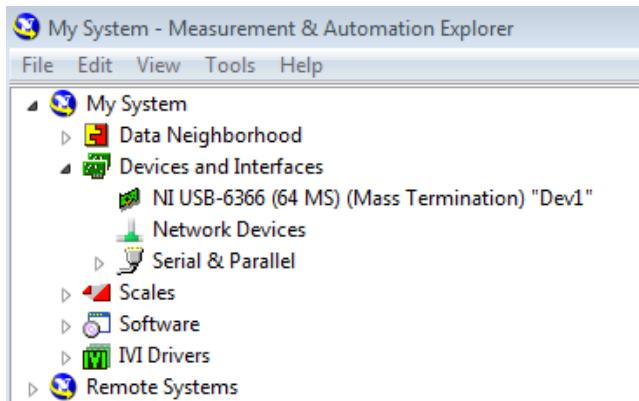

Figure 5: USB-6366 should be visible in NI MAX
- c. Turn on USB-6366, computer should recognize. To confirm proper installation navigate to, Start Menu > All Programs > National Instruments > NI MAX. NI USB-6366 should active (Figure 5).